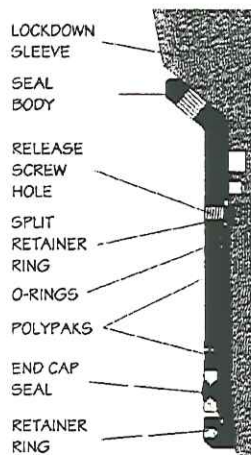

Figure 15. detail of a resilient seal type Seal Assembly
1. Refer to **Figure 15**. Thread eight 3/8" bolts into the threaded holes in the Seal Assembly OD to collapse the split retainer ring securing the Seal Assembly to the Lockdown Sleeve.
1. Refer to **Figure 15**. Unscrew and remove the retainer ring.